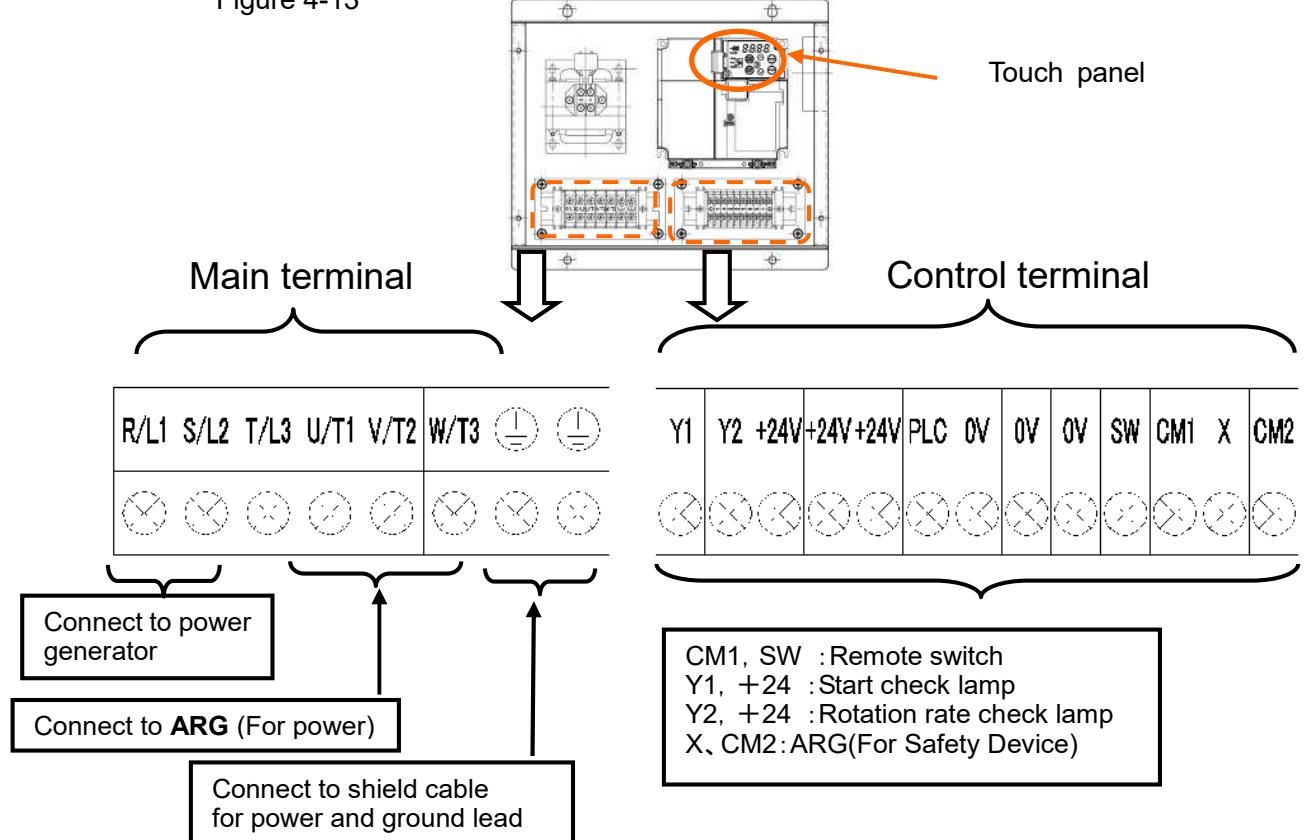

Figure 4-13 Terminal arrangement of the Motor Driver
The adjustment work of the touch panel (Refer to Figure 4-13) must be performed by qualified personnel, who has completed the ARG maintenance training.
Please see Figure 4-13 for the location of the connecting terminals.
- ③ After removing the lid, there are terminal board with a safety cover as shown in Figure 4-13